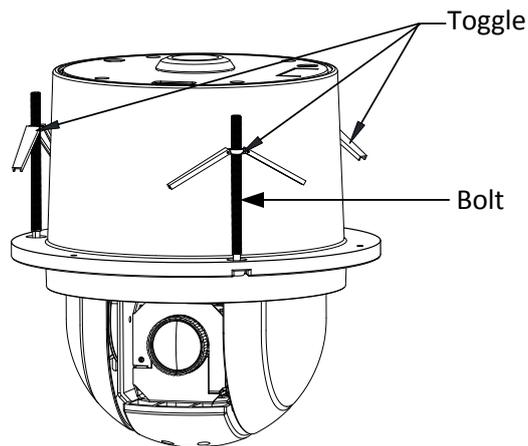

Figure 2-24 Install the Toggle Bolts
- 4) Reinstall the toggles as shown in Figure 2-24.